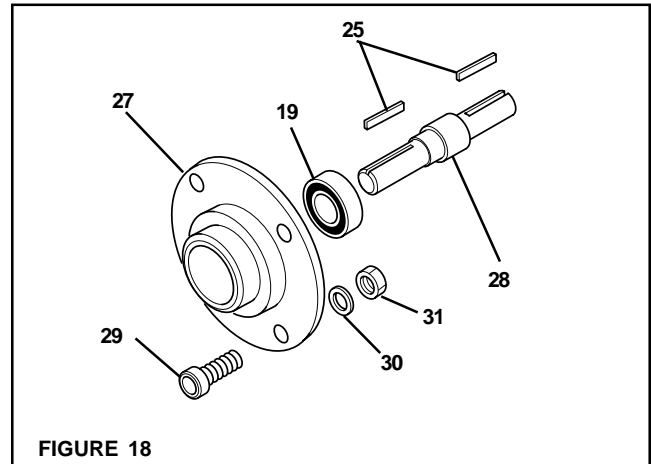

FIGURE 18
21. Support the inner race of the Ball Bearing (Item 2) located inside the Piston (Item 16) and press the Splined Disc (Item 10) into the Air Chamber (Item 12) and Piston (Item 16) (See Figure 18).